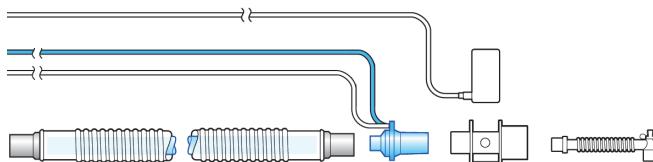

Figure 2-10. Connecting the CO2 sensor/airway adapter to the patient circuit
3. Connect the sensor/airway adapter to the patient circuit as follows (Figure 2-10):